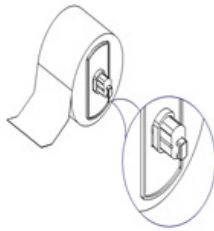

Fig. 2.2.3
- 3) Install the paper roll onto its holder, and add the paper guide plates on both sides of the paper roll (see Fig. 2.2.3);